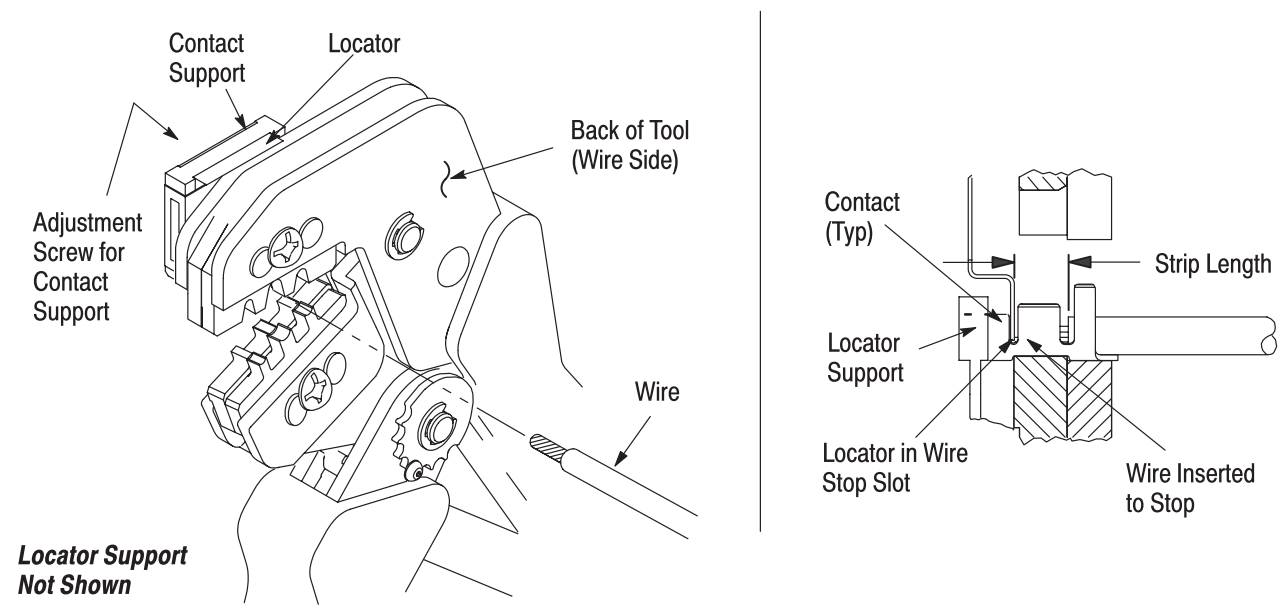

Figure 3
4. CONTACT SUPPORT ADJUSTMENT (Figure 3)
Refer to the table in Figure 1 and select wire of the specified size and insulation diameter. Strip the wire to the length indicated in Figure 1, taking care not to nick or cut wire strands. Select an applicable contact and identify the appropriate crimp section according to the wire size markings on the tool. Refer to Figure 3 and proceed as follows:
3. Place contact into the locator support and position the contact so that the mating end of the contact is on the locator side of the tool, and so that the open “U” of the wire and insulation barrels face the top of the tool. Carefully close the tool, positioning the contact so that the movable locator drops into the slot in the contact. Refer to Figure 3.
6. Insert stripped wire into contact insulation and wire barrels until it is butted against the wire stop, as shown in Figure 3.
NOTE The crimped contact may stick in the crimping area, but the contact can be easily removed by pushing downward on the top of the locator (see Figure 3).